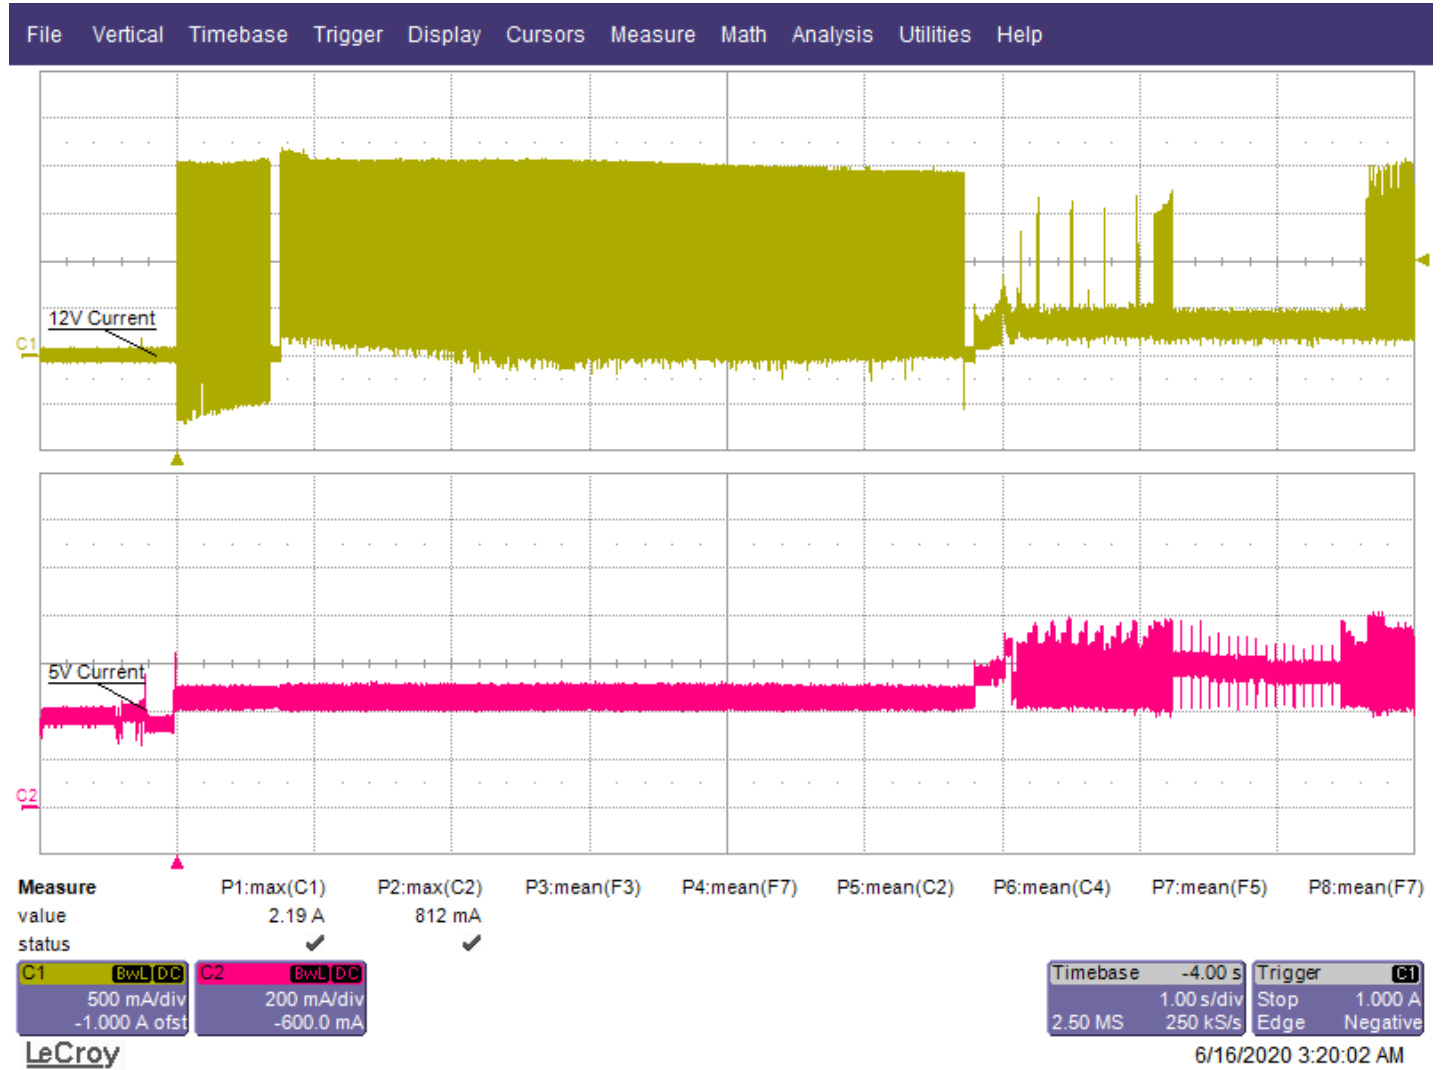

Figure 1. Exos X18 current profiles.
- [3] See +12V current profile in Figure 1.